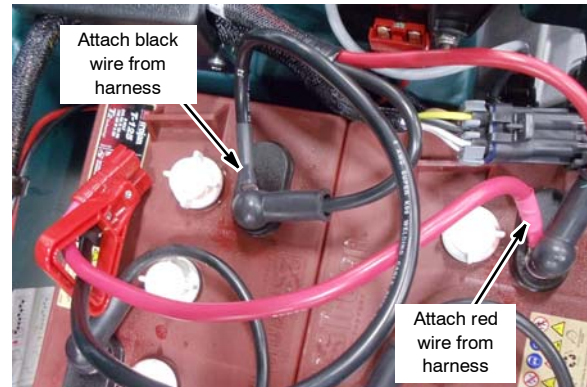

Fig. 13
13. Attach the 1049591 battery connector harness from the kit to the battery posts in positions shown, then reconnect main battery cables (Figure 13).